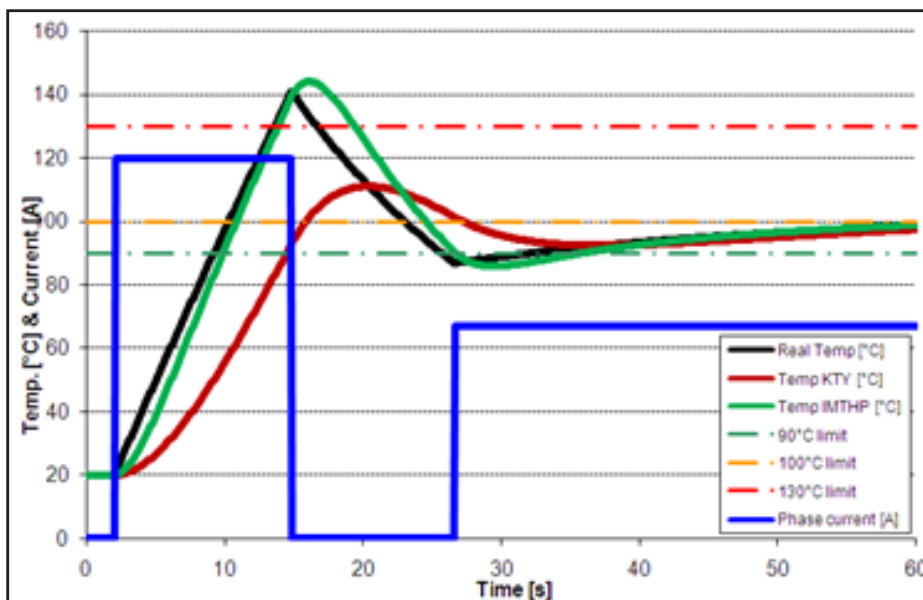

Figure 6 ETEL developed the IMTHP to eliminate the need for many of the safety measures that would limit the potential of a selected motor.
**IMTHP.** In order to eliminate a lot of the safety measures that would limit the potential of a selected motor, Etel developed the IMTHP. The IMTHP is a thermal module developed for torque motors that employs the inputs of the three KTY sensors and thus creates a corrected analog temperature signal—providing the user a precise and continuous monitoring of actual motor temperature. It then takes these readings and uses its own algorithms to determine if the temperature is on-track to reaching an overheating point by outputting a simple digital warning/error signal that can be used without complex data processing on the controllers' part, and have the machine properly react if any problem is ever detected. In this way the delay in the KTY sensor reading was overcome so that a generally more accurate and precise temperature reading could be monitored. The IMTHP also provides galvanic insulation to protect the machine cabinet in case of a critical overvoltage defect (Fig. 6).